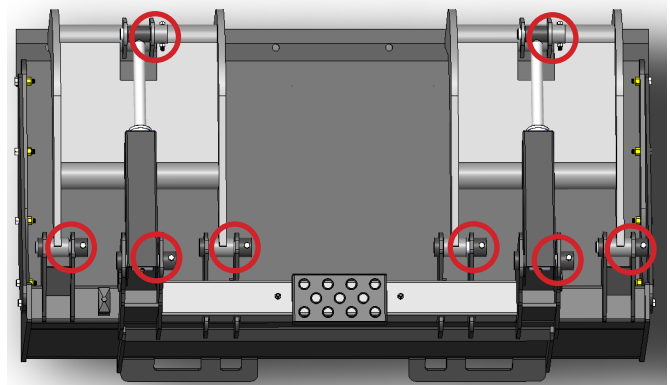

Figure 1
Grease all pivot points every eight (8) hours of use to prevent excess wear on the clamp pins and cylinder pins. The Mini Single Clamp has four to five (4 –5) grease points. The Mini Double Clamp, Extreme Duty, Extreme Duty High Capacity, and Severe Duty Grapple Buckets have eight (8) grease points. These points are circled in Figure 1.